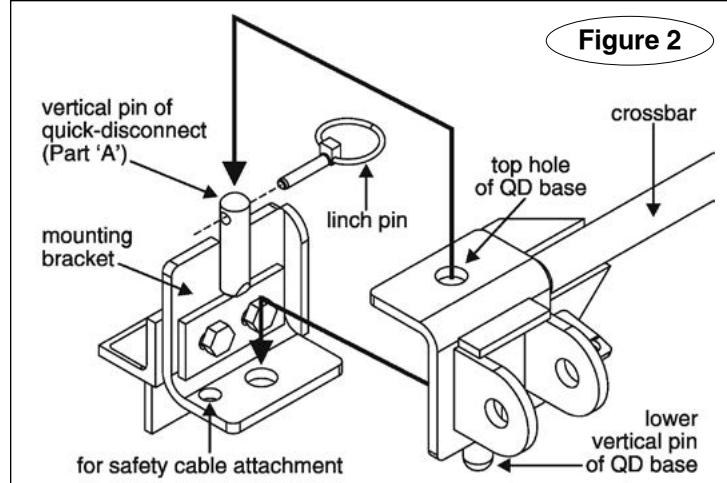

Figure 2
2. Test-fit the crossbar – lower the crossbar (Figure 2) over the quick-disconnects. The vertical pins at the top of both QDs should fit through the top holes at the ends of the crossbar (Figure 2), and the vertical pins at the bottom of the crossbar should fit through the lower holes on the quick-disconnects (Figure 2).
5. Insert the lynch pins (Figure 2) through the upper holes in the vertical pins on both QDs.